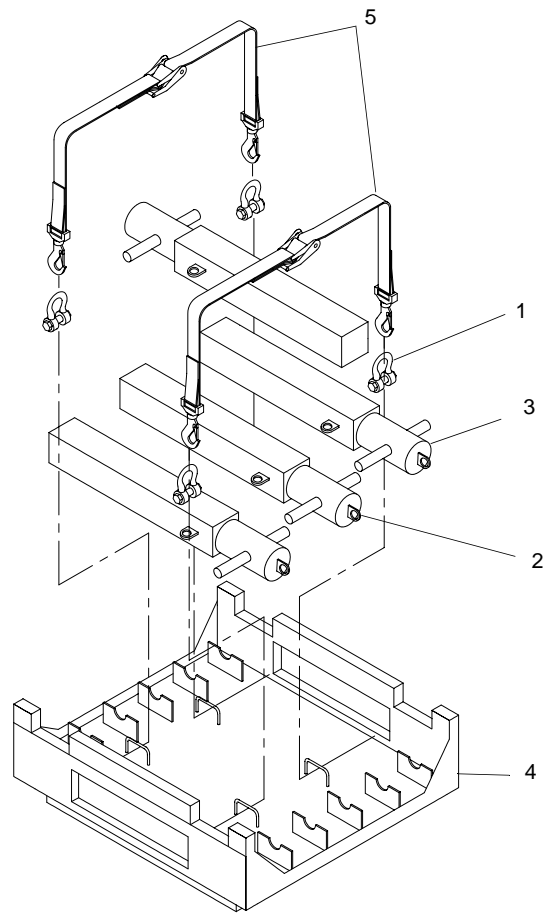
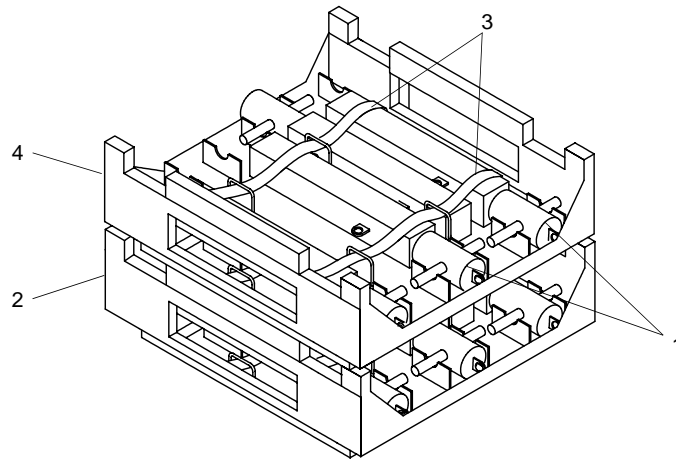

Figure 12. Packing Mooring Bitts
Figure 13. Mooring Bitts and Pallets
25. Remove shackles (figure 12, item 1) from ends (figure 12, item 2) of mooring bitts (figure 12, item 3).
26. Install four shackles (figure 12, item 1) in bottom of each pallet (figure 12, item 4).
27. Using forklift and slings, place the mooring bitts (figure 13, item 1) in the lower pallet (figure 13, item 2).
28. Install and tighten two tie down straps (figure 12, item 5 and figure 13, item 3) to secure mooring bitts (figure 13, item 1) to shackles (figure 12, item 1) in lower pallet (figure 13, item 2).
29. Using forklift, place upper pallet (figure 13, item 4) on top of lower pallet (figure 13, item 2).
30. Using forklift and slings, place the mooring bitts (figure 13, item 1) in the upper pallet (figure 13, item 4).
31. Install and tighten two tie down straps (figure 12, item 5 and figure 13, item 3) to secure mooring bitts (figure 13, item 1) to shackles (figure 12, item 1) in upper pallet (figure 13, item 4).